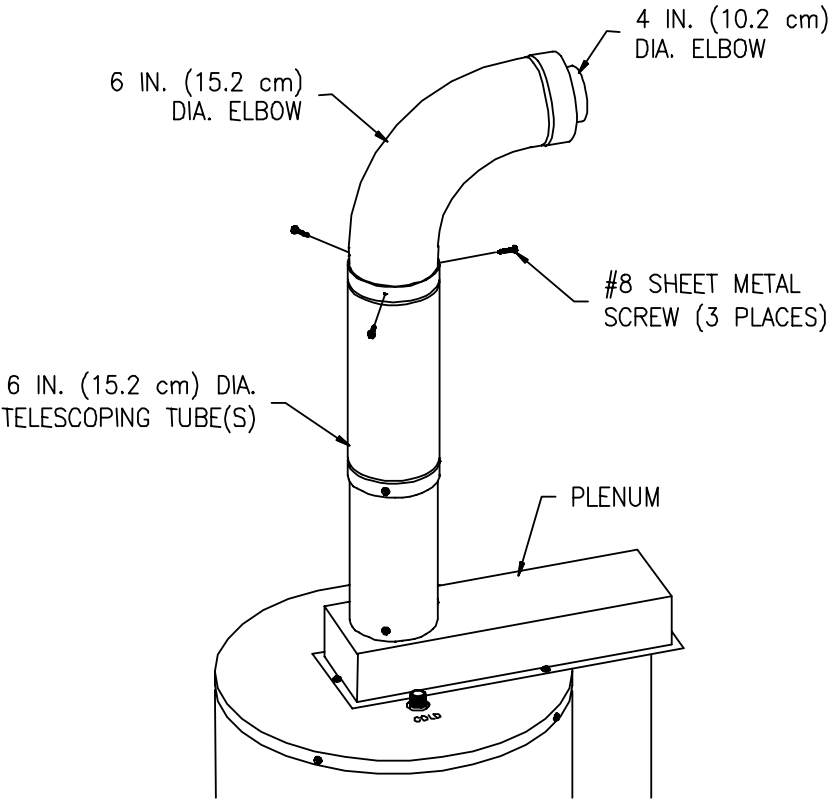

Figure 9
8. Place the straight end of the six (6) inch (15.2 cm) diameter elbow over the four (4) inch (10.2 cm) diameter elbow into the end of the six (6) inch (15.2 cm) diameter telescopic tube(s), one (1) inch (2.5 cm) *(or until seated)*. Make certain that the six (6) inch (15.2 cm) diameter elbow is oriented in the same direction as the four (4) inch (10.2 cm) diameter elbow and both are oriented in the correct direction. Drill three (3) 1/8 inch (3.2 mm) diameter holes, 120° apart, through the six (6) inch (15.2 cm) diameter telescopic tube(s) into the six (6) inch (15.2 cm) diameter elbow. Fasten with three (3) #8 sheet metal screws (supplied). (See Figure 9).